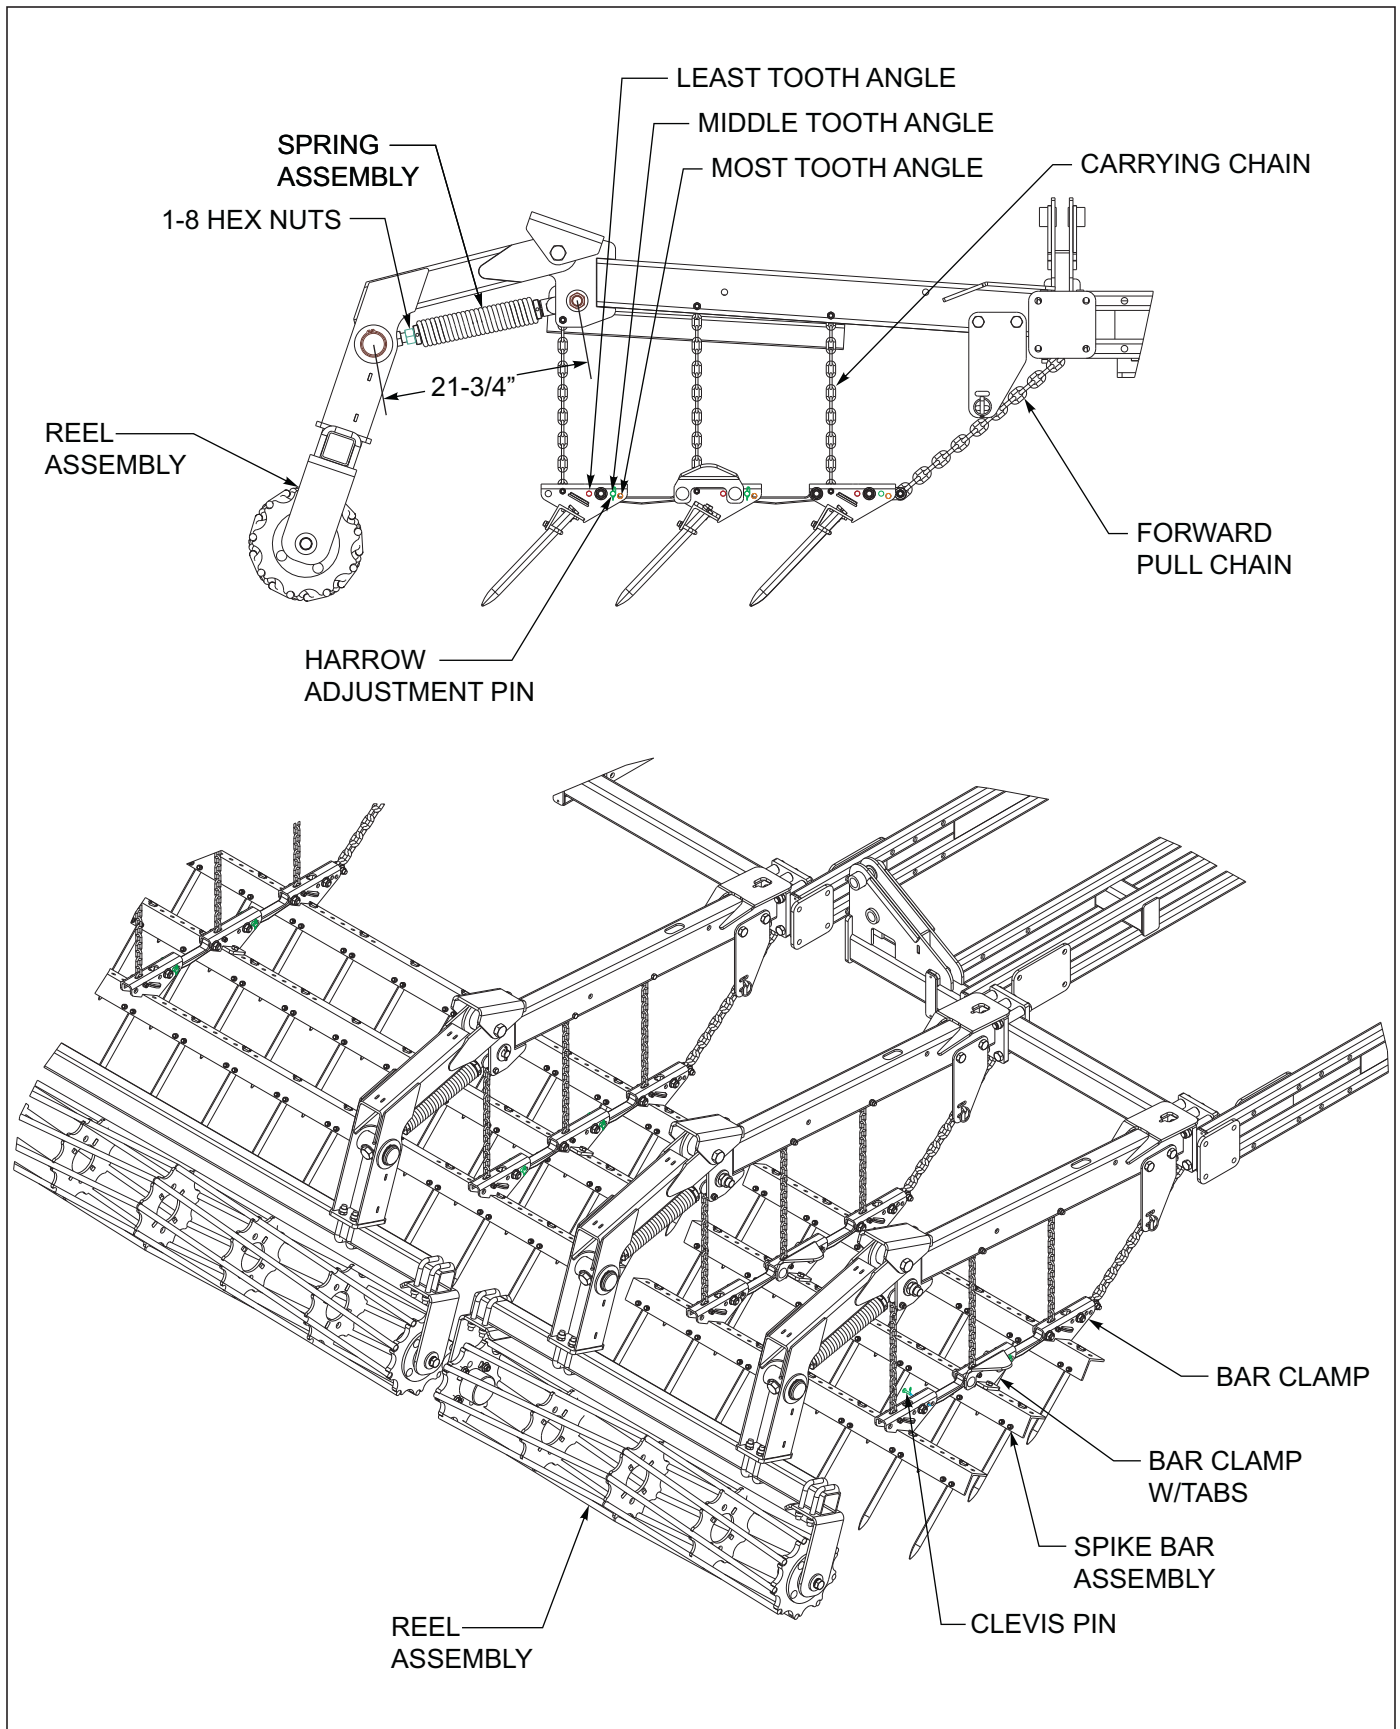

Figure 4-11: 3 Row Spike and Reel Adjustments
3. For the most aggressive spike tooth action, install the harrow adjustment pin in the forward mounting hole over each bar clamp for each spike bar *See Figure 4-11*. This will position the spike teeth to be in the most vertical position. In wetter or conditions with some residue, lower the spike tooth angle by positioning the harrow adjustment pin in the middle or rear hole. This will allow the teeth to lay flatter and shed more residue.